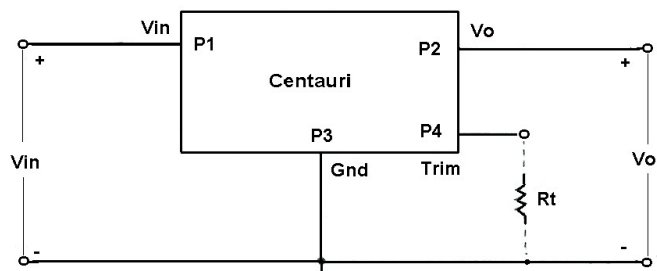

Figure 4. Output Voltage Trim Setup.
To adjust Vo to a higher value, please refer to Figure 4. The required resistor value (Rt) can be determined through Equation (1) where Vo is the voltage on P2 before the adjustment and Vot is the voltage of P2 after Rt is connected.